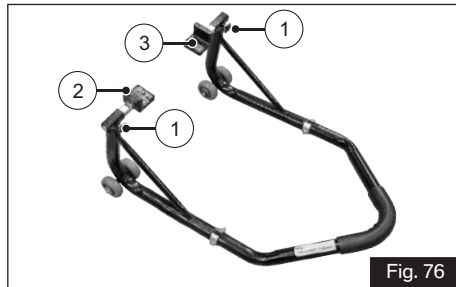

Fig. 76
- ◆ Loosen the clamping screws (1) of the stand adopters.
- ◆ Move away the adopters (2 & 3) in such way that the swing arm fits between them (ref. Fig. 76).